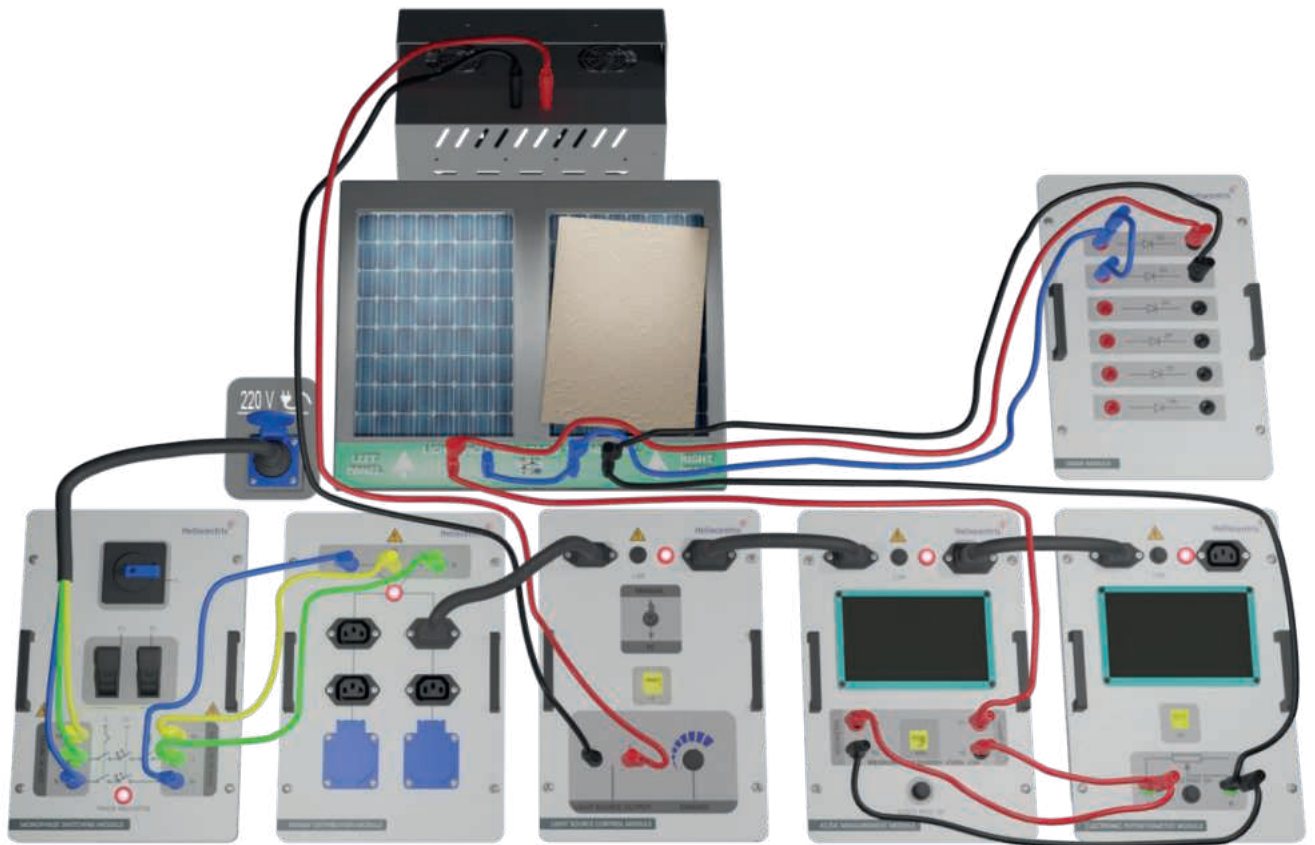

Figure-50. Installation Image of Examination of Effect of Bypass Diode in Photovoltaic Panels (with Shadow Effect)
5. To conduct the experiment, cover one panel with paper or a non-transparent material, as demonstrated in Figure-50. Then, reduce the load by 100Ω and record the voltage and current measurements from the MM Module in Table-41.